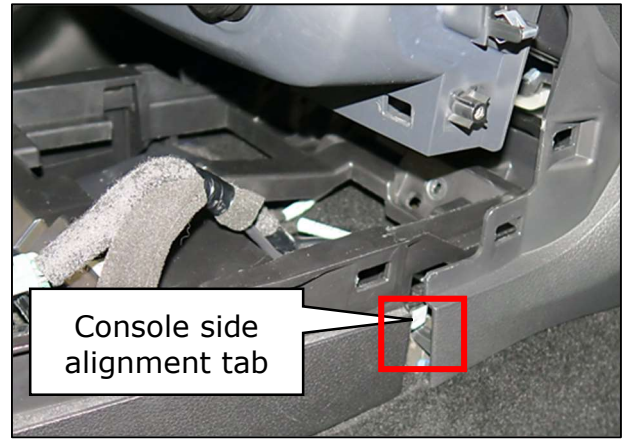

Figure 33
31. Position the center console side alignment tabs with the instrument panel side trim on the LH and RH sides of the center console. (Figure 33)